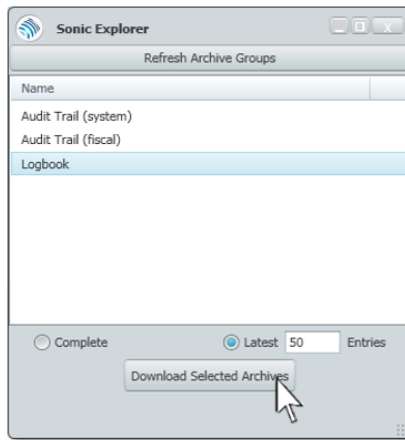

Figure 16-2 Archives window
- ✓ A new window will open as seen below in Figure 16-2.
- ▶ Press **Download Selected Archives**. (Figure 16-2)